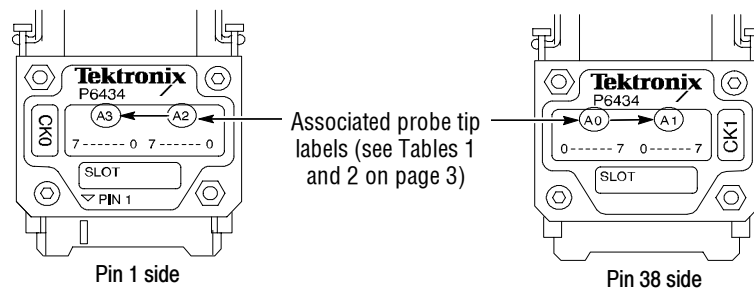

Figure 5: Location of the pin 38 side label on the probe-tip connector
6. Apply the associated pin 38 side label to the probe tip (see Figure 5). If necessary, see Tables 1 or 2 on page 3 for label information.